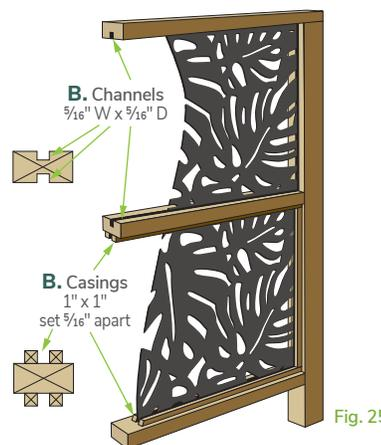

Fig. 25
- **Brick and Masonry:** Attach frame with masonry screws (Fig. 25).
2. **Channel-Mount:** Router a 5/16" wide x 5/16" deep channel in all posts and rails (Figs. 25 & 26).
3. **Casing-Mount:** Attach 1" x 1" border casing to all posts & rails (Figs. 25 & 27).